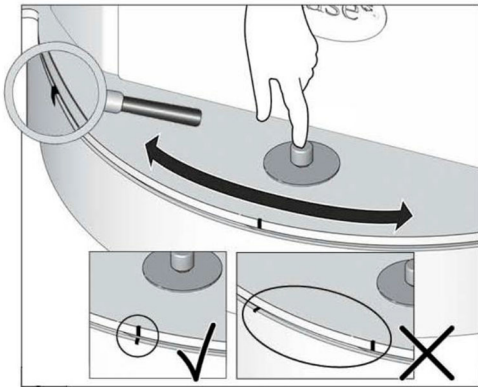

Figure 3 - Zero Index Marks
1. Figure 3 - Zero Index Marks
3. Ensure the stove is in its 0-degree orientation (line up the index marks) (see fig. 3), and then position the stove to center the door on the hearth.